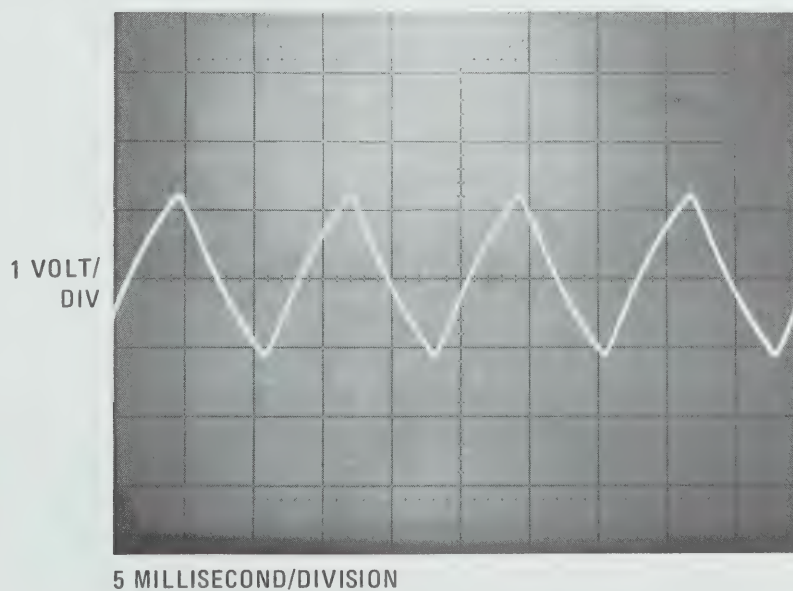

Figure 6-1. A6TP1 YIG Loop Unlocked
- 6-2. Remove the 11661 from the mainframe and reconnect using an 11672-60002 extender cable. On the A1 assembly remove 20 MHz output cable. Connect oscilloscope to A6TP1. The voltage ramp at this test point should be about +2.5V p-p (see Figure 6-1). Adjust A7R17 so the ramp just turns on (extension modules with serial prefixes 1515A and above, use a fixed A7R17 with no adjustment necessary). Reconnect the 20 MHz output cable. The signal at A6TP1 should be $0V \pm 0.1V$.